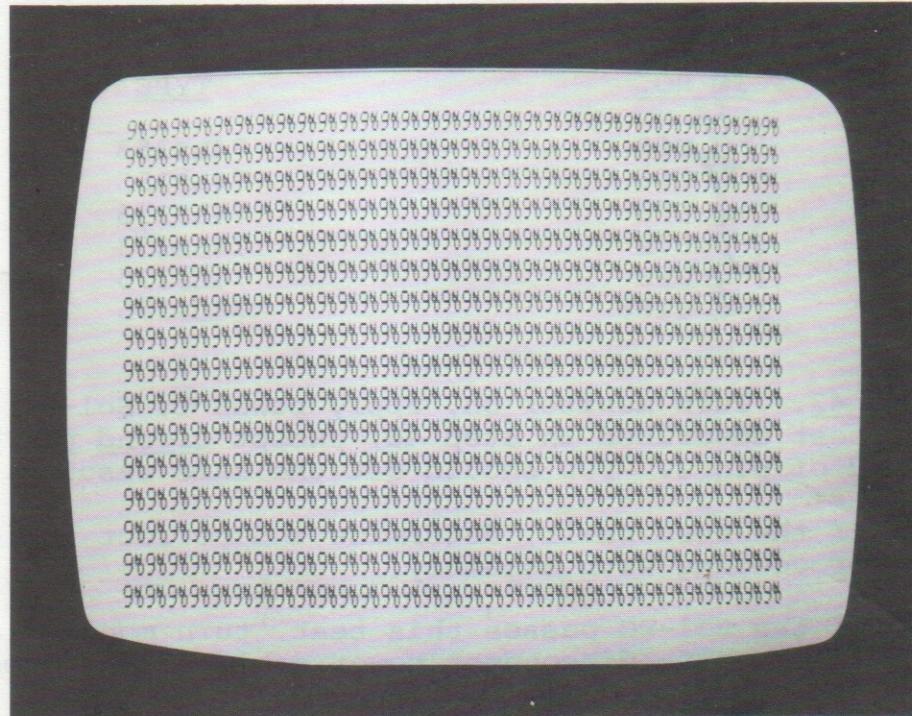

Figure 3-10. CPU Functional Test No. 2 display, 6575 character generator. (6574 pattern differs. See Section VIII.)
(✓) Momentarily ground pin 1 of U2 and pin 2 of U75. The display shown in Figure 3-10 on Page III-31 should appear on the monitor.
- (✓) Ground pin 1 of U2. You should see the same display as shown in Figure 3-10 on Page III-31. In this case, however, there should be a vertical "flickering" movement with an apparent flicker rate of approximately three times per second.